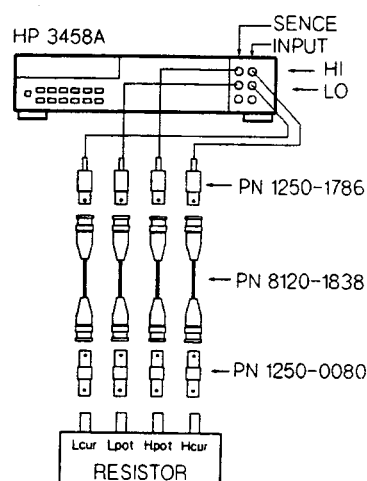

Figure 3-2. Verification Check Setup for Resistors
2. Connect the multimeter to 10 Ω resistor as shown in Figure 3-2.